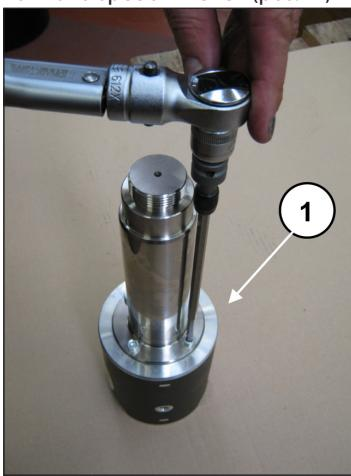

Fig. 46
To separate the rod from the piston guide, unscrew the round head M6 screws with a special wrench (pos. ①, Fig. 46).